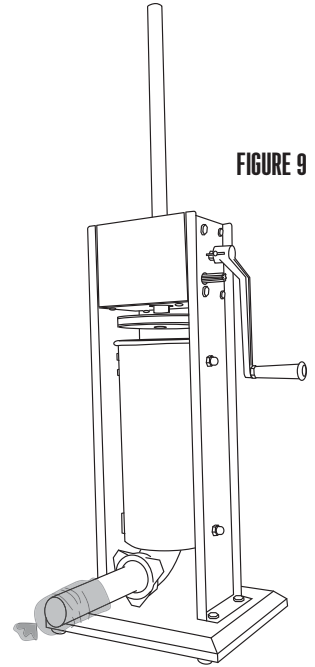

FIGURE 9
6. Slip a casing on the end of the Stuffing Funnel until the entire casing has slid onto the Funnel (**FIGURE 9**).